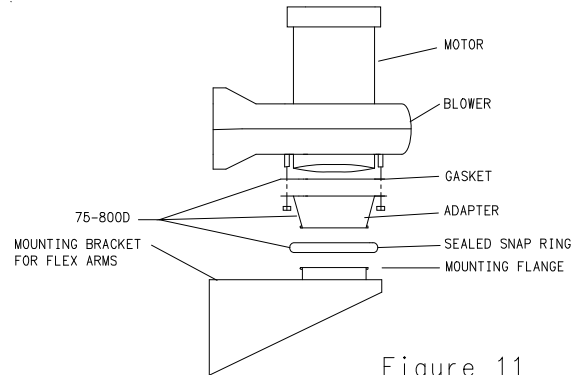

Figure 11
Please note that the arm support structure is inside a tube. The hose for the arm is on the outside of the tube. First remove the hose from the tube. Take care not to damage the hose. Patience is the best assurance. Secondly, remove the support structure from inside the tube. The kit requires several components. Lay out the components to be sure that you have received all the correct components. See figure 1 for arm layout and figure 11 for blower/motor layout.
- In order to use a blower (blower with 4 studs on the inlet side) connecting to the mounting bracket from the arm, **Model 75-800D** connection flange and a snap ring are required. This is a funnel type fitting that is to be bolted directly the fan inlet (See Figure 11).